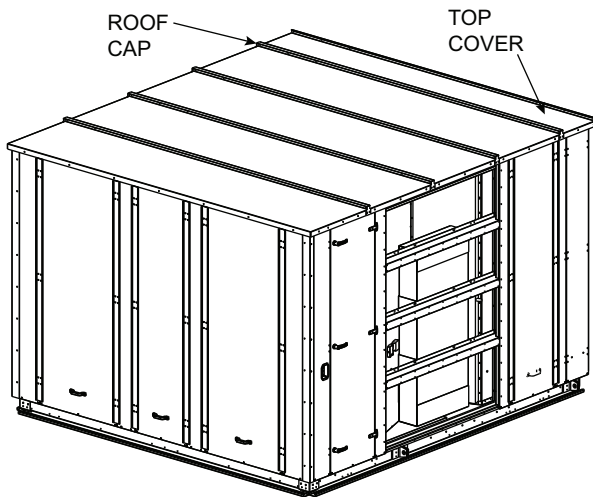

Fig. 59 — Roof Cap and Top Cover Removal
7. Remove the roof cap, top cover and L brackets from the filter end of the return section. Save these parts for later installation. See Fig. 59 and 60.